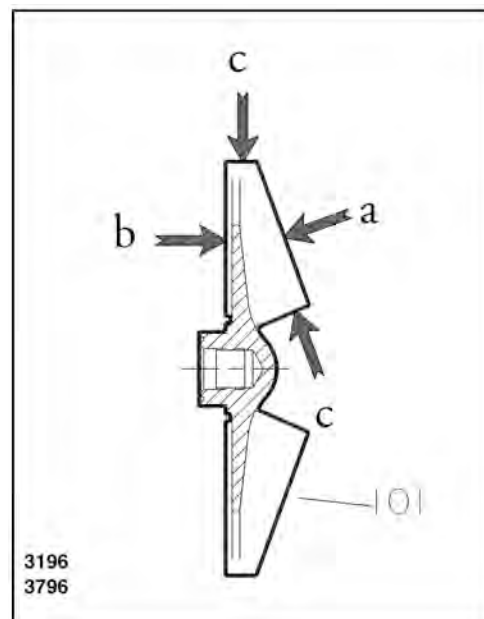

Figure 44:
(Area "a" in Fig 44)
(Area "b" in Fig. 44 & 45).
3. Inspect leading and trailing edges of the vanes for cracks, pitting, and erosion or corrosion damage. (Area "c" in Fig. 44 & 45).
conditions exist, see Figure 44: on page 47.